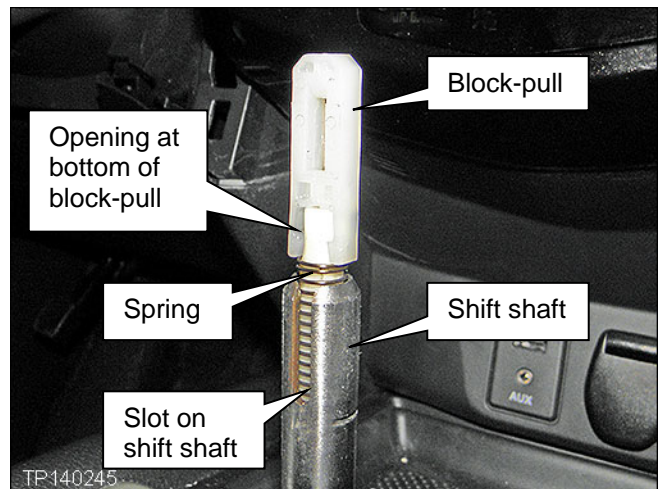

Figure 7
- Make sure they are reinstalled correctly, as shown in Figure 7.
- The opening at the bottom of the block-pull must be aligned with the slot on the shift shaft as shown in Figure 7.